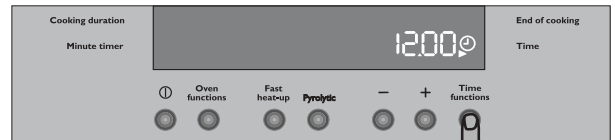
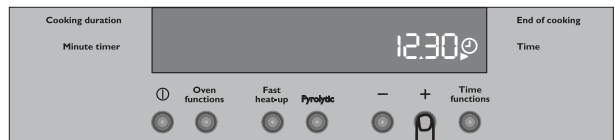

Fig. 1
Fig. 2
a) press Time functions button and, while the symbol  is flashing (Fig. 1), set the correct time by pressing buttons “-” or “+” (Fig. 2).